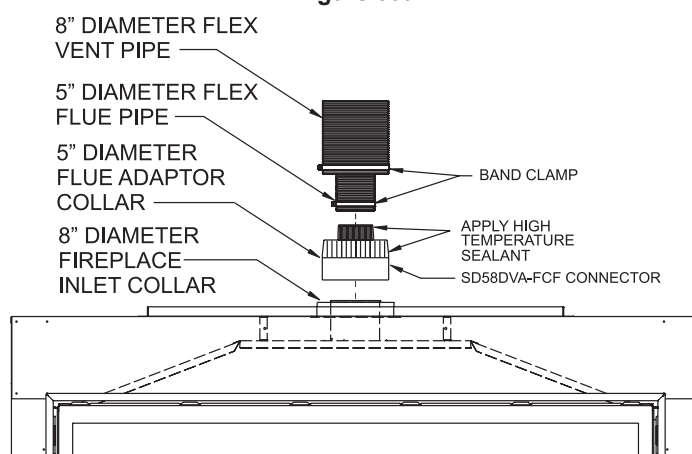

Figure 59b
**NOTE:** For installation of Flex Venting on Fireplaces that have Flue and Inlet Vent collars flush with top of the fireplace, it is recommended that an SD58DVA-FCF Connector be used. When using the SD58DVA-FCF Flex Vent Connector, it will require removing (or cutting off) the 5" diameter adapter from the DVVK5F Flex Flue. **See Step 10b and Figure 59b.**
- 10b. If using the SD58DVA-FCF Vent Connector, apply sealant to the inside of the 5" diameter flex flue pipe, then connect the flex flue to the 5" flue takeoff on the SD58DVA-FCF Connector. Use a 5" diameter band clamp and a minimum of two screws to secure the flex flue to the SD58DVA-FCF Connector. **See Figure 59b.**